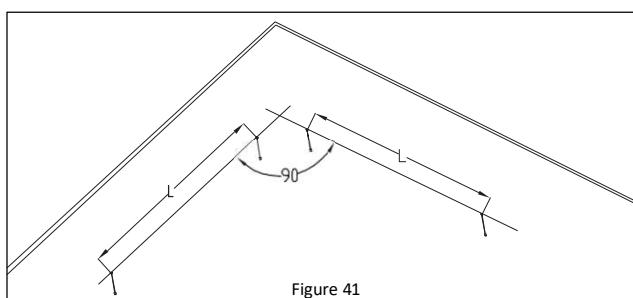

Figure 41
3. Make the mounting marks on the ceiling for fixtures, please refer to **Mounting Instructions** for mounting the fixture.. . *See Figure 41.*